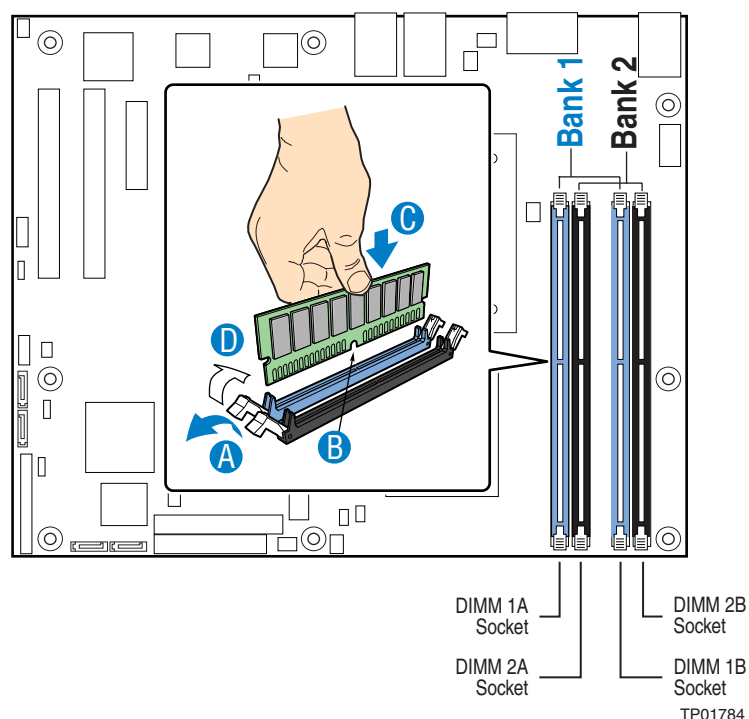

Figure 4. Installing DIMMs
5. Locate the DIMM sockets (see Figure 4).
6. Make sure the clips at either end of the DIMM socket(s) are pushed outward to the open position (see letter “A” in Figure 4).
8. Position the DIMM above the socket. Align the notch on the bottom edge of the DIMM with the key in the DIMM socket (see letter “B” in Figure 4).
9. Insert the bottom edge of the DIMM into the socket (see letter “C” in Figure 4).
10. When the DIMM is inserted, push down on the top edge of the DIMM until the retaining clips snap into place. Make sure the clips are firmly in place (see letter “D” in Figure 4).